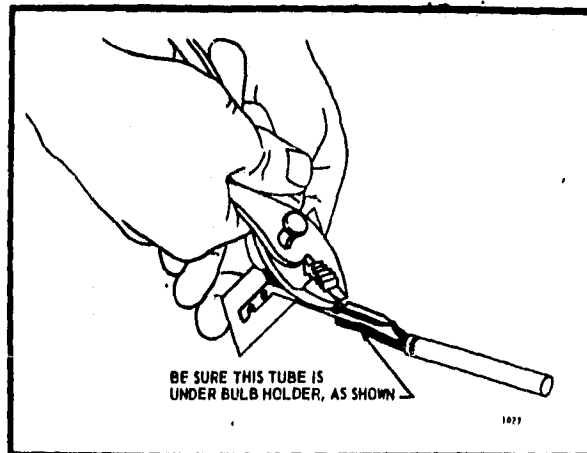

FIG. 10—SECURING CAPILLARY IN BULB HOLDER.
4. Place capillary in bulb holder channel. Pinch top edges of holder together at each segment (Fig. 10).